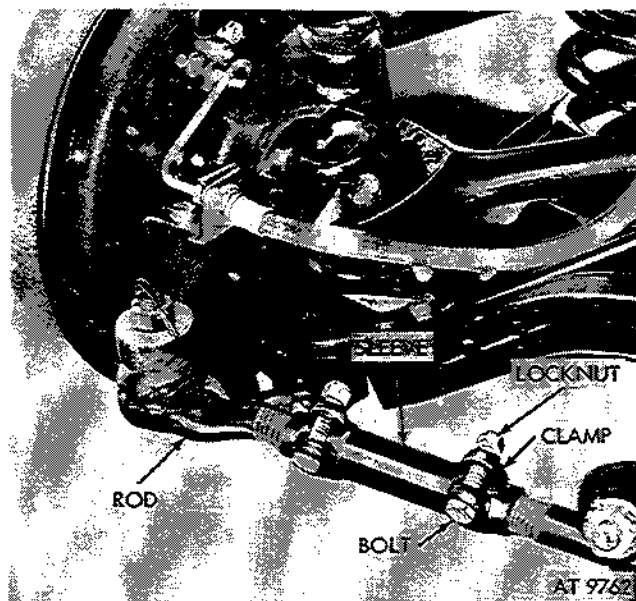

Figure 2-340. Loosen locknut on two clamps on both spindle arm tie-rod adjusting sleeves.
c. Loosen locknut on two clamps on both spindle arm tie-rod adjusting sleeves (fig. 2-340).